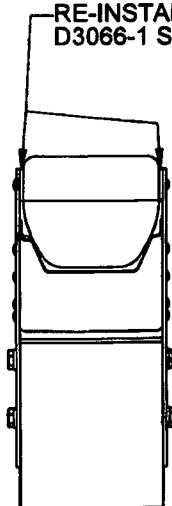

FIGURE 3: DSI 9670-013 CONFIGURATION
2.2.3 Install Mid Step Leg Assembly D4964-043 and Spacer D3066-1 using qty (16) NASM20600AD4W4 rivets, (8 per side). See Figure 3.
FOR D350-591-213/-214/-311/-312 High Skid Step Assembly (FIGURE 3)